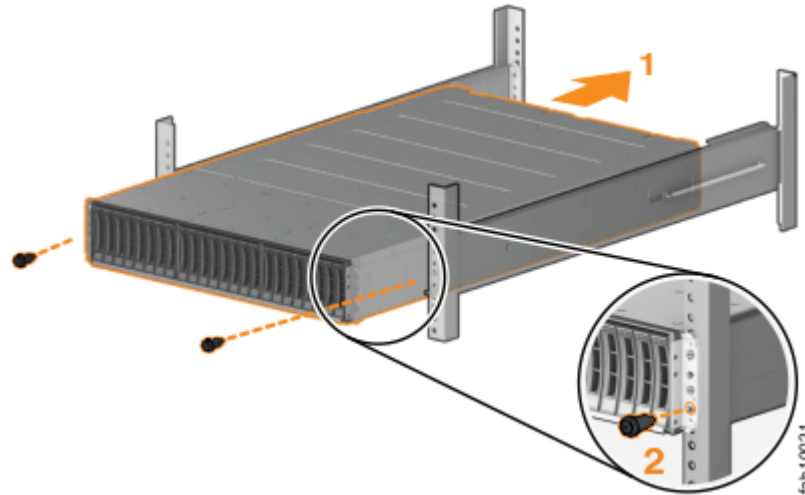
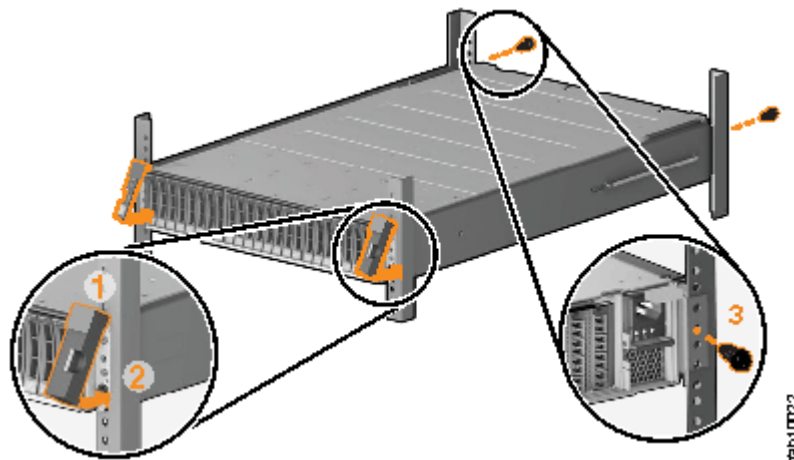

Figure 35. Inserting the enclosure
Figure 36. Reinstalling enclosure end caps
- See Figure 35 on page 69.
(See Figure 35 on page 69 and Figure 36 on page 69.)
See Figure 36 on page 69. The left end cap has indicator windows that align with the status LEDs (light-emitting diodes) on the edge of the enclosure.